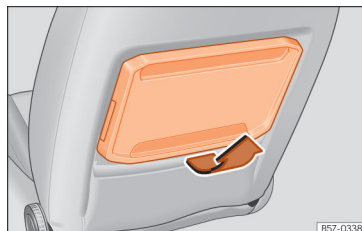

Fig. 175 Left-hand front seat: folding table.
- Pull the table up, in the direction of the arrow, until it catches »» Fig. 175.